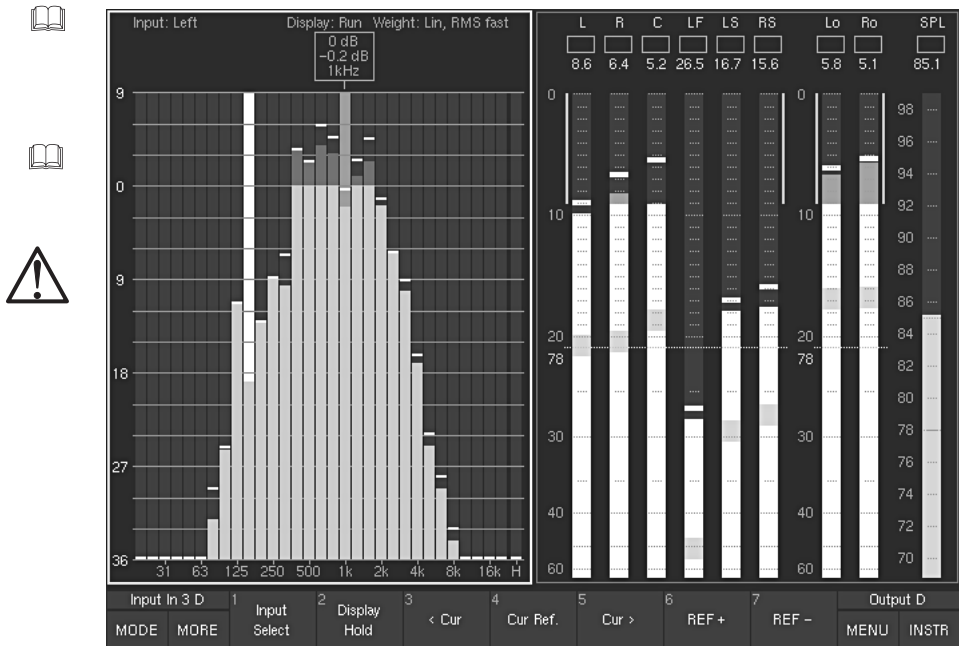

Fig. 3-10: First Toolbar function level of the RTA 1/3 instrument. Select MORE to display additional functions (level 2).
(Button/key 1 – first level, see Figs. 3-10 and 3-11)
(Button/key 2 – first level, see Fig. 3-10 and 3-11)
(Button/key 3 and button/key 5 – first level, see Figs. 3-10 and 3-11)
(Button/key 4 – first level, see Figs. 3-10 and 3-11)
(Button/key 6 and button/key 7 – first level, see Fig. 3-10 and 3-11)